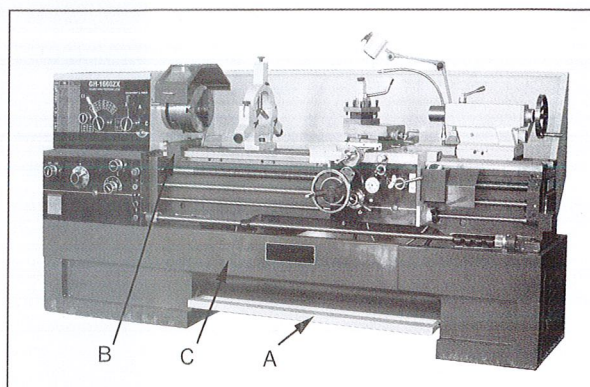

Fig.15
20. **Foot Brake:** (A, Fig.15) The connecting rod mechanism is in the bed stand. The braking device is in the pulley of the headstock. Depress the pedal to stop all lathe functions. (**Caution:** lathe still has power.)
21. **Micro Carriage Stop:** (B, Fig. 15) can be used during manual feed operation. The dial can be turned for fine tuning the position of the stop. The micro carriage stop can be moved along the bed by loosening the two socket head cap screws found on the bottom side of the stop.
22. **Bed Cover:** (C, Fig. 15) can easily be removed to clean out the stand.